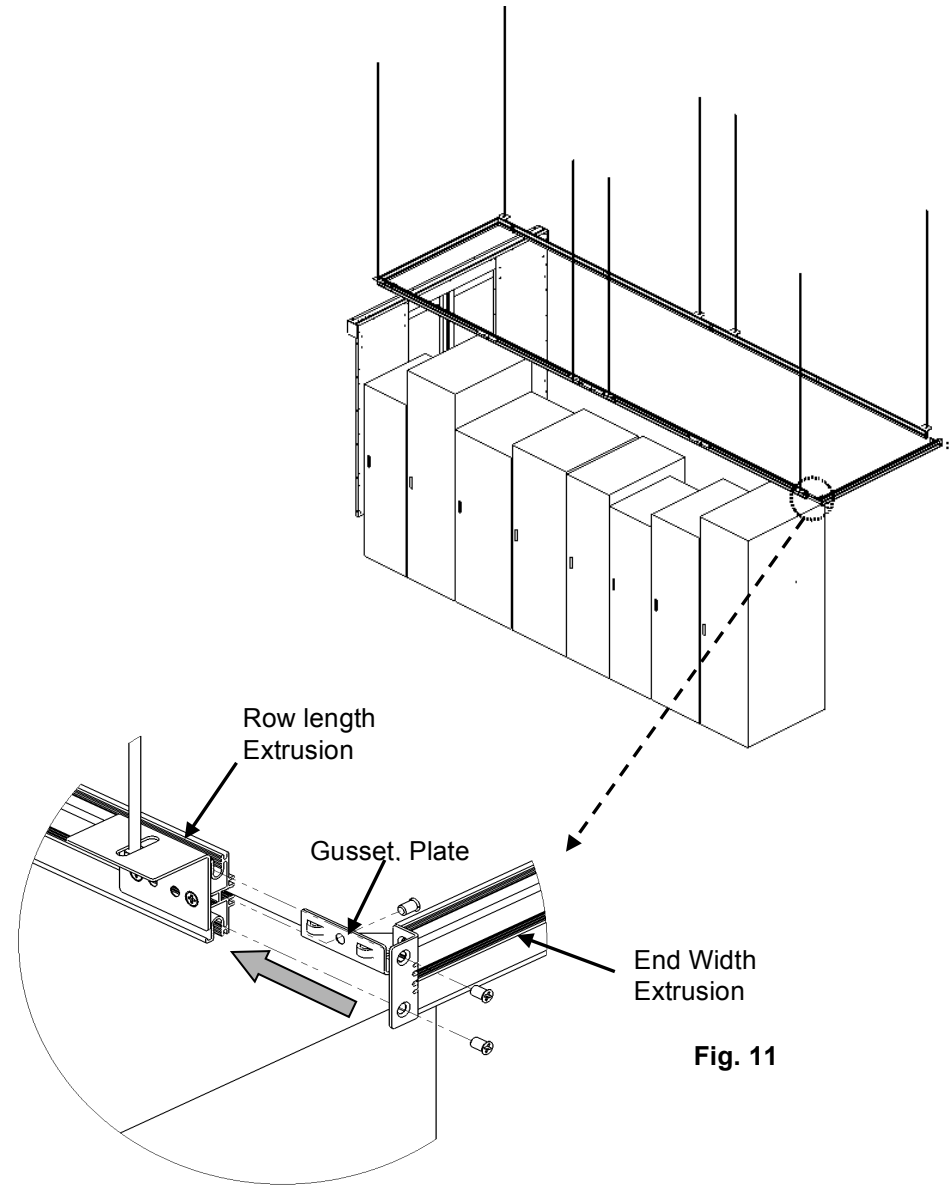

Fig. 11
12. Install end width onto the existing length assemblies (Fig. 11).